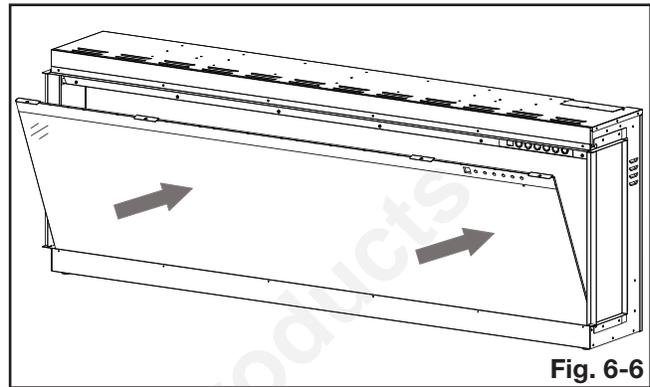

Fig. 6-6
2. Tilt the front glass forward (**Fig. 6-6**).